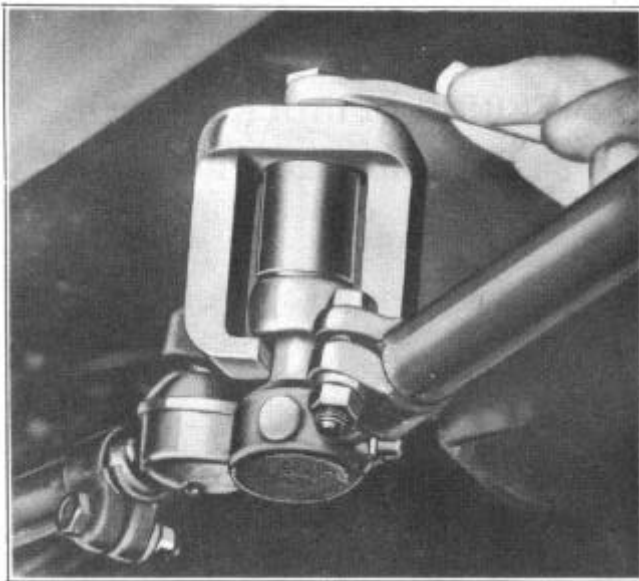

FIGURE 15
2. Remove tie rod cotter pin and castellated nut and rubber dust cover, and remove the tie rod using tool J-2781, Figure 15.